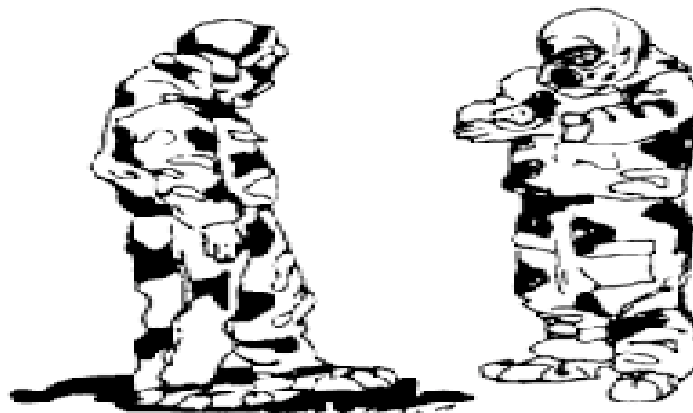

Figure E-102. Decontaminating the gloves.
- a. Have your buddy decontaminate his or her chemical protective gloves (figure E-102) with the personal decontamination kit.